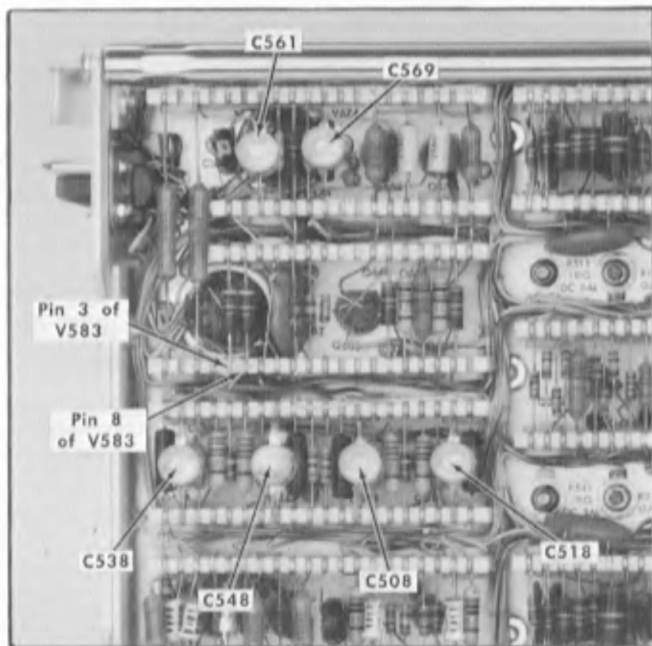

Fig. 6-23. Location of trigger amplifier high frequency compensation test points and adjustments.
- c. Connect a 10× probe from the vertical input connector of the test oscilloscope to pin 8 of V583, see Fig. 6-23.
- g. ADJUST—C508, see Fig. 6-23, until the test oscilloscope square-wave display has an optimum square leading corner and a flat top.
- i. Disconnect the 10× probe from pin 8 of V583 and connect it to pin 3 of V583; see Fig. 6-23.
- k. ADJUST—C518, see Fig. 6-23, until the test oscilloscope square-wave display has an optimum square leading corner and a flat top.
- o. Disconnect the 10× probe from pin 3 of V583 and connect it to pin 8 of V583; see Fig. 6-23.
- r. ADJUST—C538, see Fig. 6-23, until the test oscilloscope square-wave display has an optimum square leading corner and a flat top.
- t. Disconnect the 10× probe from pin 8 of V583 and connect it to pin 3 of V583, see Fig. 6-23.
- v. ADJUST—C548, see Fig. 6-23, until the test oscilloscope square-wave display has an optimum square leading corner and a flat top.
- y. Disconnect the 10× probe from pin 3 of V583 and connect it to pin 8 of V583; see Fig. 6-23.
aa. ADJUST—C561, see Fig. 6-23, until the test oscilloscope square-wave display has an optimum square leading corner and a flat top.
ac. Disconnect the  $10\times$  probe from pin 8 of V583 and connect it to pin 3 of V583; see Fig. 6-23.
ae. ADJUST—C569, see Fig. 6-23, until the test oscilloscope square-wave display has an optimum square leading corner and a flat top.